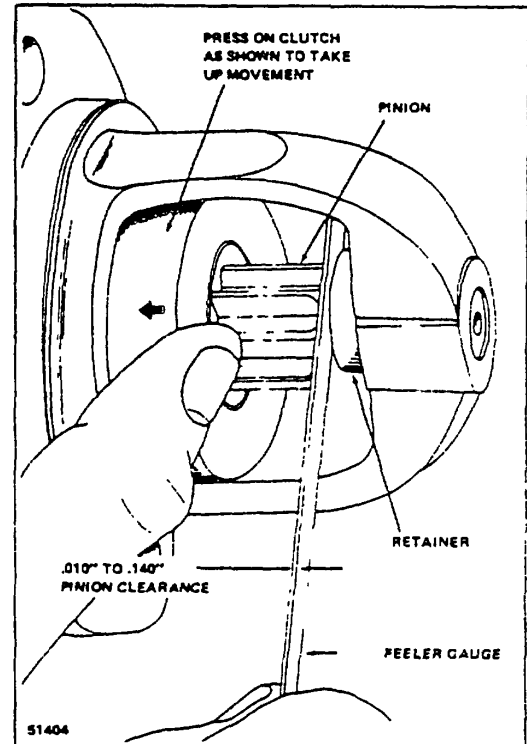

Figure 3-8. Checking Pinion Clearance
5. Measure the distance between pinion and pinion stop (See Figure 3-8). Pinion clearance should be .010" to .140".